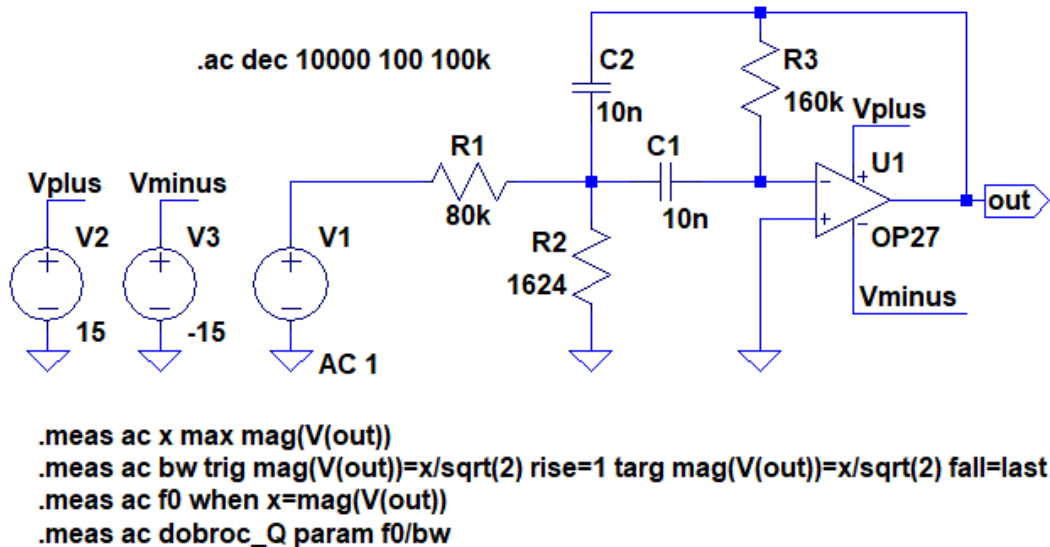

Fig. 8. Use of the *.meas* command.
9. Use the *.meas* command to set filter parameters. Modify the analyzed circuit as shown in Figure 8.